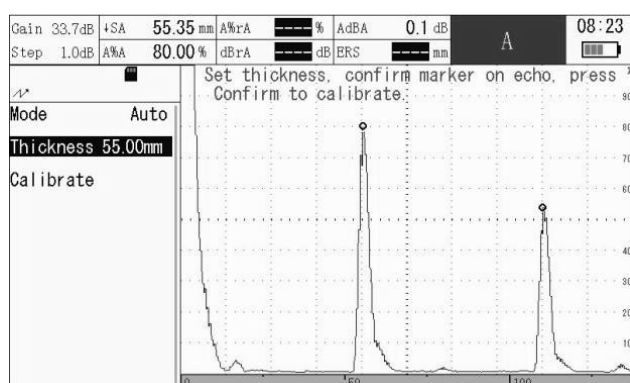
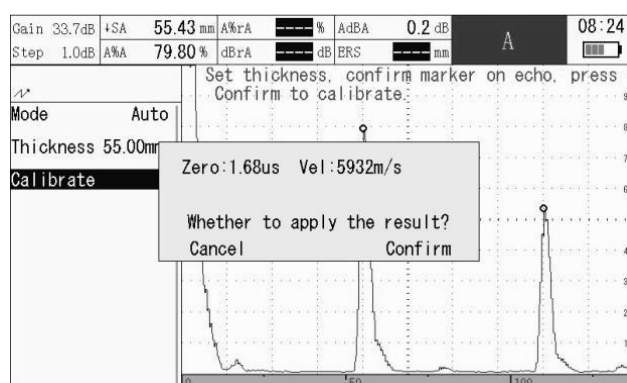

Figure 21 Auto-Calibration Interface
Figure 22 Confirm Calibration Results
1) Auto-Calibration Mode: In this mode, the instrument automatically locks onto the first and second echoes, and completes zero point and sound velocity calibration synchronously. Set the thickness of the calibration workpiece (see Figure 21), adjust the range to display the first and second echoes. Then select Calibration and press  button. The instrument will complete zero point + sound velocity calibration and pop up the results (see Figure 22). At this point, press  to apply the results, or press  to cancel.